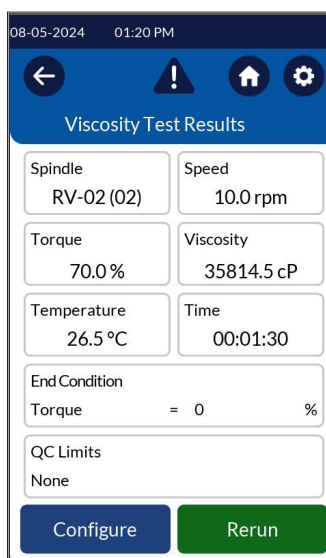

Figure 3-4.2
- When the end condition is reached, the motor will stop, and the measurement result will be displayed. **Figure 3-4.2**